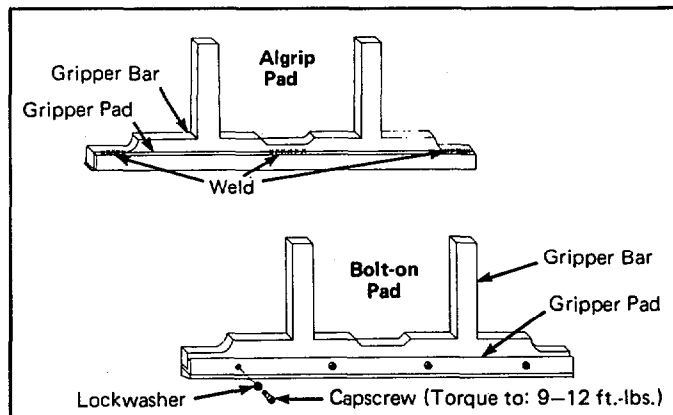

Figure 3. Gripper Pad Replacement.
Algrip Pad Replacement (See Fig. 3)
1. Grind off the skip welds and remove the Algrip surface. Grind the gripper jaw smooth. Skip weld the new Algrip surface in place. Use welding rod E-7018. See Figure 3(Algrip Pad).
Bolt-on Pad Replacement (See Fig. 3)
1. Remove old pad. Replace with new pad and torque the capscrews to 9-12 ft.-lbs., see Figure 3(Bolt-on Pad).